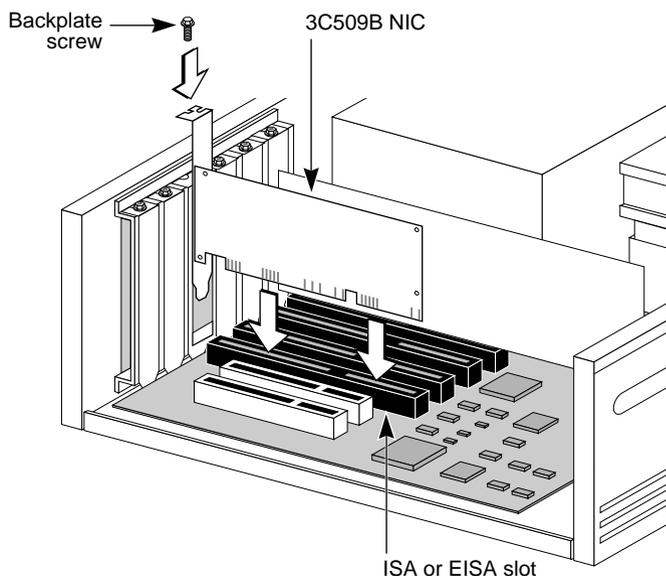

Figure 2-1 Inserting the 3C509B NIC in a PC
- 6 Insert the 3C509B NIC in the slot, as shown in Figure 2-1. Press it in firmly to get a good connection.**